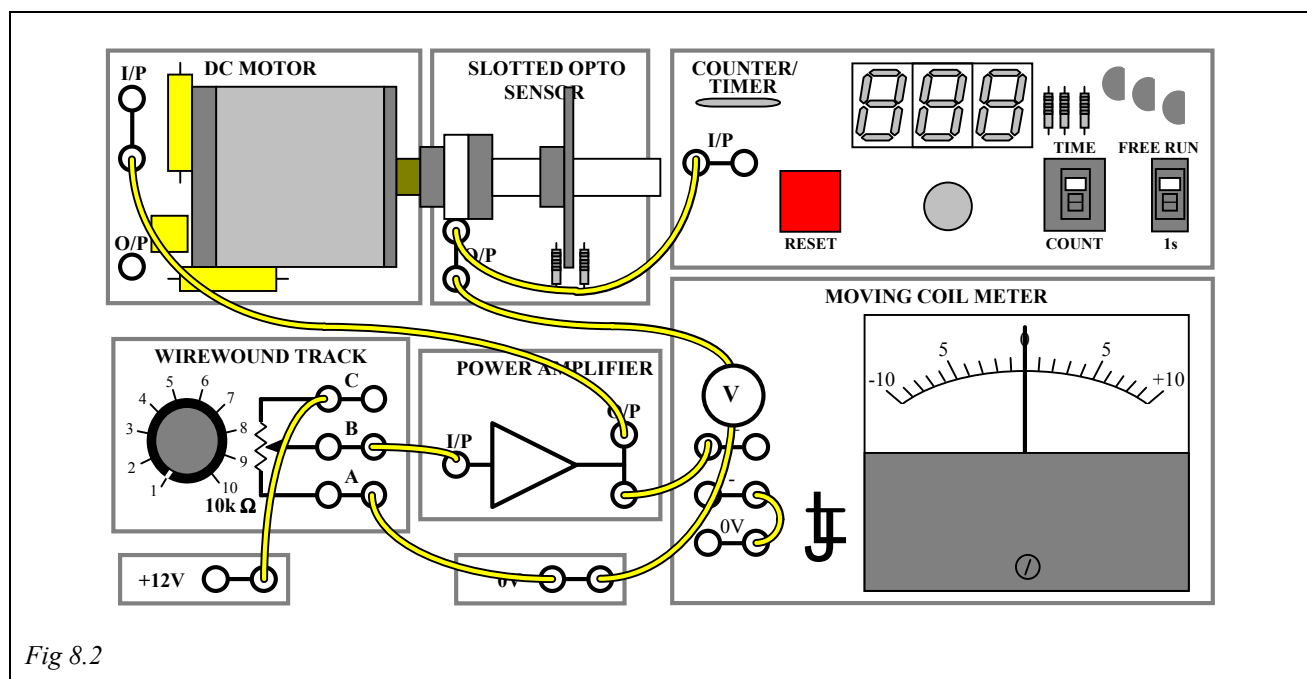

Fig 8.2
- Connect the circuit as shown in Fig 8.2 and set the 10kΩ wirewound resistor control fully counter-clockwise for zero output voltage.